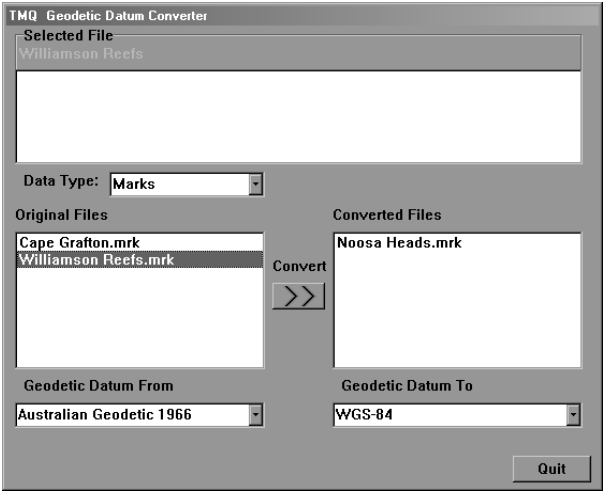

Figure 3.8
4. Click ‘Convert’. The converted file will now appear in the ‘Converted Files’ section. (See Figure 3.8)